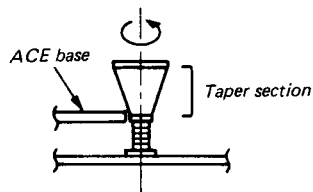

Fig. 1-4-14 Taper nut and ACE base
4. Turn the taper nut counterclockwise until the ACE base reaches the lower taper end of the taper nut as shown in Fig. 1-4-14.